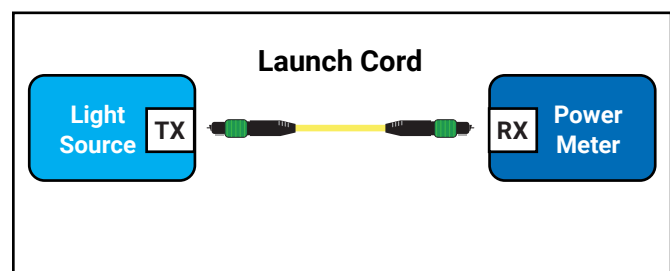

Figure 10a: Establish a reference
4. Connect the launch cord between the light source and the power meter (see Figure 10a).